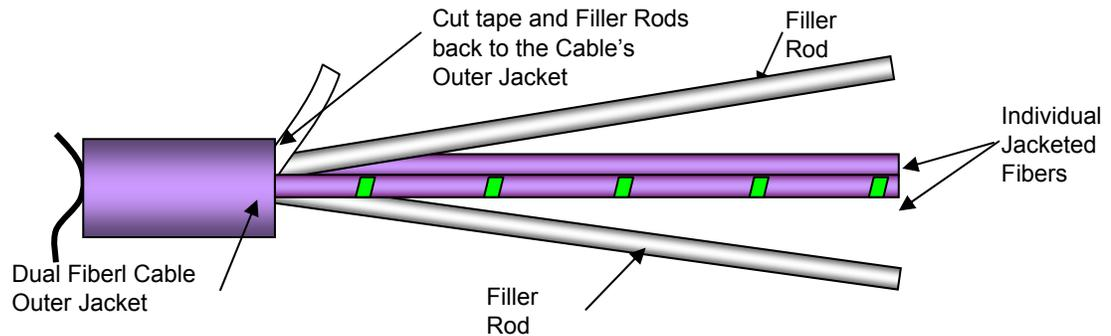

Figure 7-11 – Cutting Back the Tape and Filler Rods
Step 3 - Carefully unwrap the barrier tape back to the dual fiber cable outer jacket and cut flush with the outer jacket. Next cut the two filler rods flush with the cable's outer jacket. See Figure 7-11.